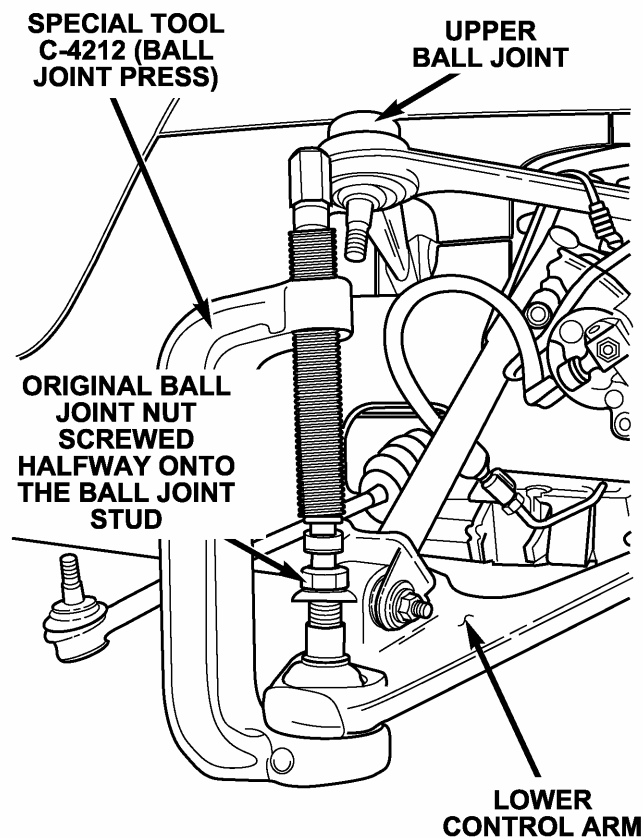

Figure 5
19. Install the original lower ball joint nut onto the ball joint stud so that the threads of the stud are halfway through the nut (Figure 5).
20. Reinstall the ball joint press without any adapters and tighten the press to complete the removal of the ball joint from the lower control arm (Figure 5).